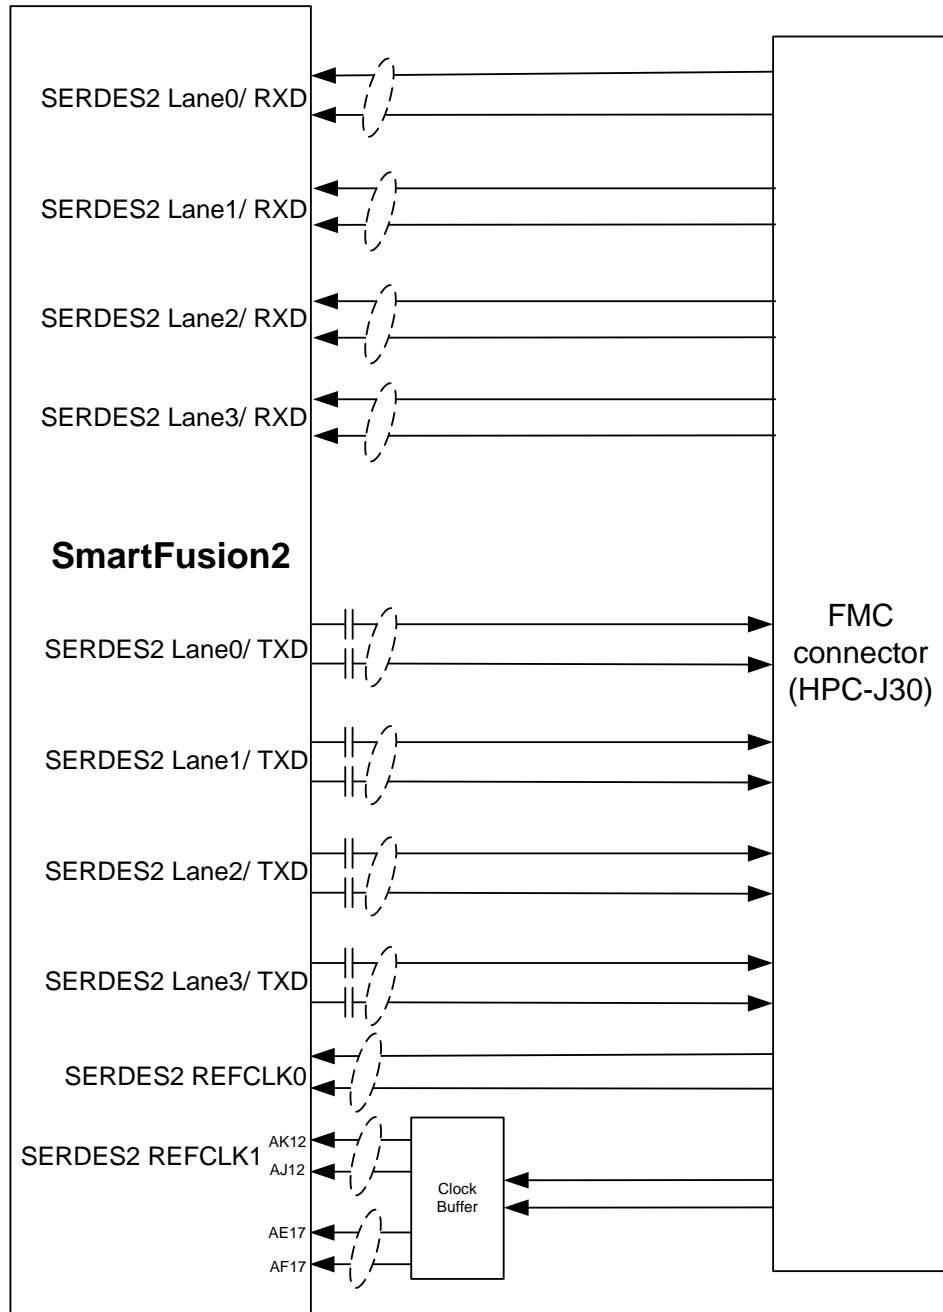

Figure 9 • SERDES2 Interface
- SERDES2 reference clock 1 is routed from the FMC connector through the Clock buffer. The output of the clock buffer is additionally routed to the SmartFusion2 Advanced Development Kit board pins - AE17 and AF17. Refer to Figure 9.